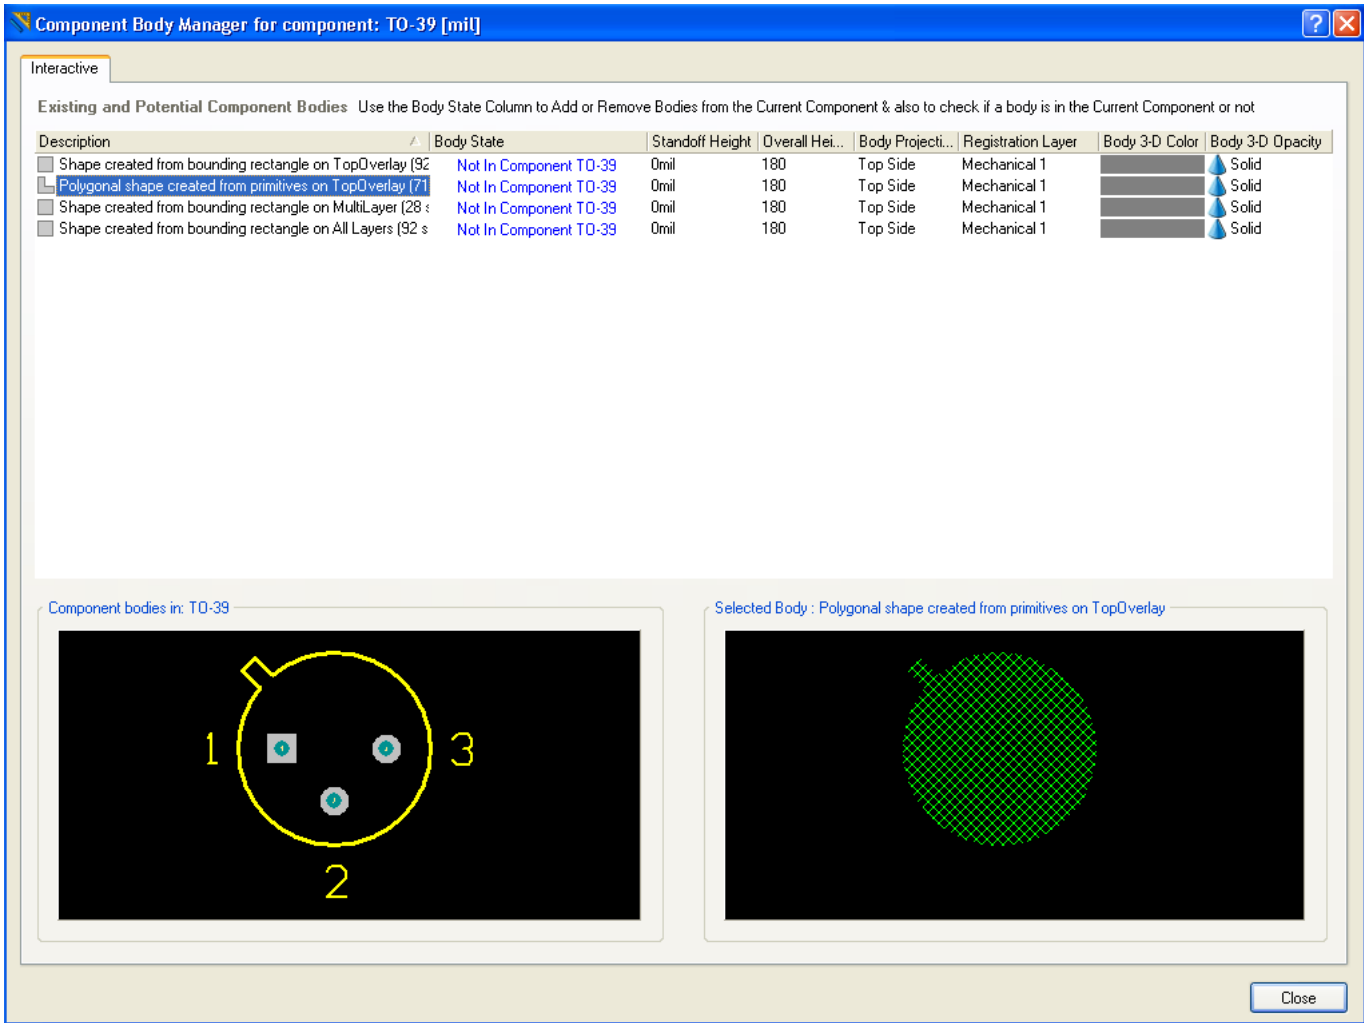

Figure 60. Use the 3D Body Manager dialog to quickly create 3D body objects based on existing primitives.
3.To create a shape that follows the outline defined on the component overlay we will use the second option that appears in the list, **Polygonal shape created from primitives on TopOverlay** . For this row in the dialog, click **Add to** (component_name) in the **Action** column, set the **Registration Layer** to the mechanical layer that the body object should be placed on (Mechanical1 in this case), set the **Overall Height** to a suitable value, eg. 180mil, and set the **Body 3D Color** to a suitable color, as shown in Figure 60. Scroll through the list to select any closed polygons that you want to use to define the component model.